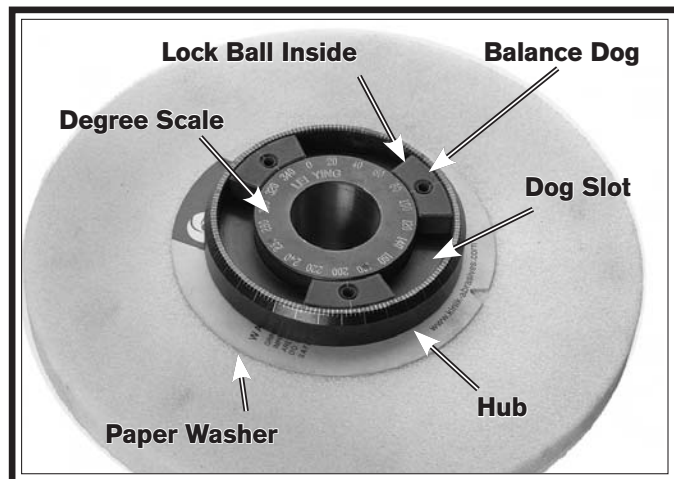

Figure 34. Grinding wheel hub.
- Without letting any of the dogs or the lock balls they contain fall out of the hub, use a 2.5mm hex wrench to loosen the dogs and position them at the 0°, 120°, and 240° degree locations as indicated by the degree scale on the hub (**Figure 34**).